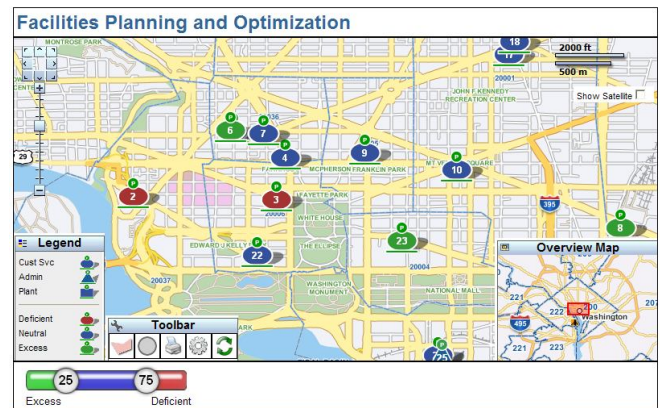

Figure 1. Facilities Icons on a Map
A space optimization system uses a cost model that considers all the factors and determines the optimum combination of facilities to achieve the desired objective. For example, if the desired objective is to maximize cost savings over the next three years, then the system determines the solution that results in the greatest net cost savings while staying within the constraints of space, proximity and suitability. The system consists of a web based user interface (UI), and a back end analytics component. The UI displays the locations of facilities on a map. Facilities are represented by icons that convey information about each facility. For one such system, shown in Figure 1, Johnston McLamb designed icons that used color and shape to convey four types of information: type of facility, amount of space inside the building, amount of parking space, and total site space (which includes the land around the building). Depending on customer requirements, the icons could show other information such as whether the facility is leased or owned. To render the map, Johnston McLamb uses spatial tools built in to Oracle Database (Locator) and Oracle Application Server (MapViewer).